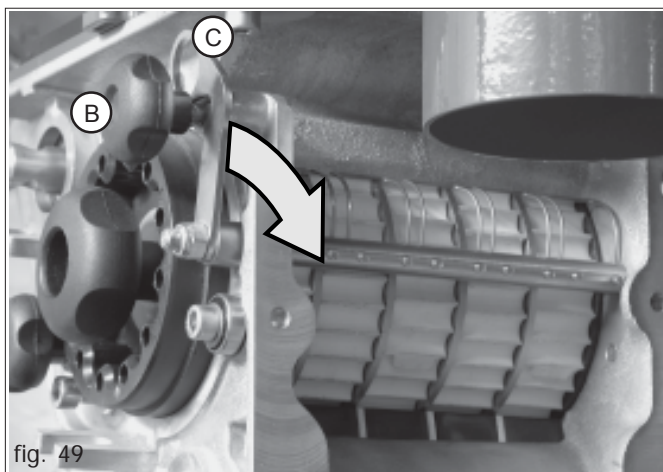

fig. 49
... loosen the knob (B, Fig. 49), remove the levers (C) from their housing and move them in the direction shown by the arrow.
- 1) Loosen and remove the knob (B, Fig. 49). Then, move the lever (C) in the direction shown by the arrow.